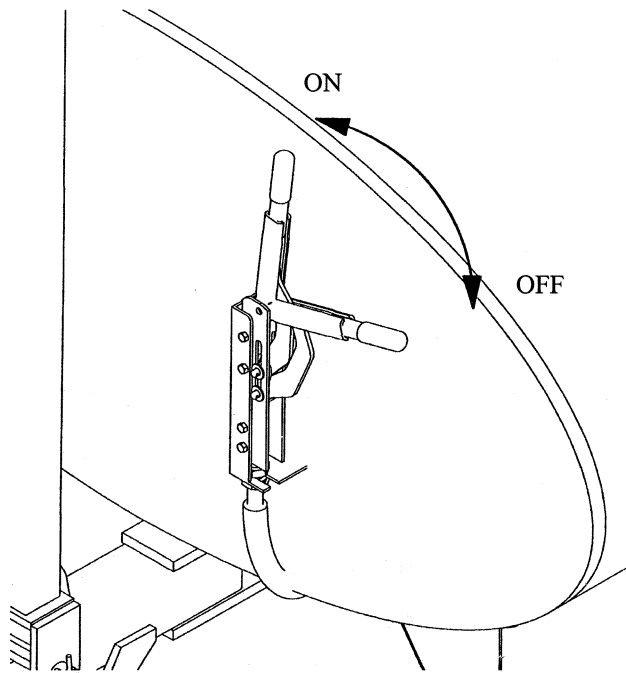

Figure 4-1. Parking Brake Handle
4.4.1 Parking Brake. The parking brake is applied by using the parking brake handle located at the front of the tank assembly. See Figure 4-1.